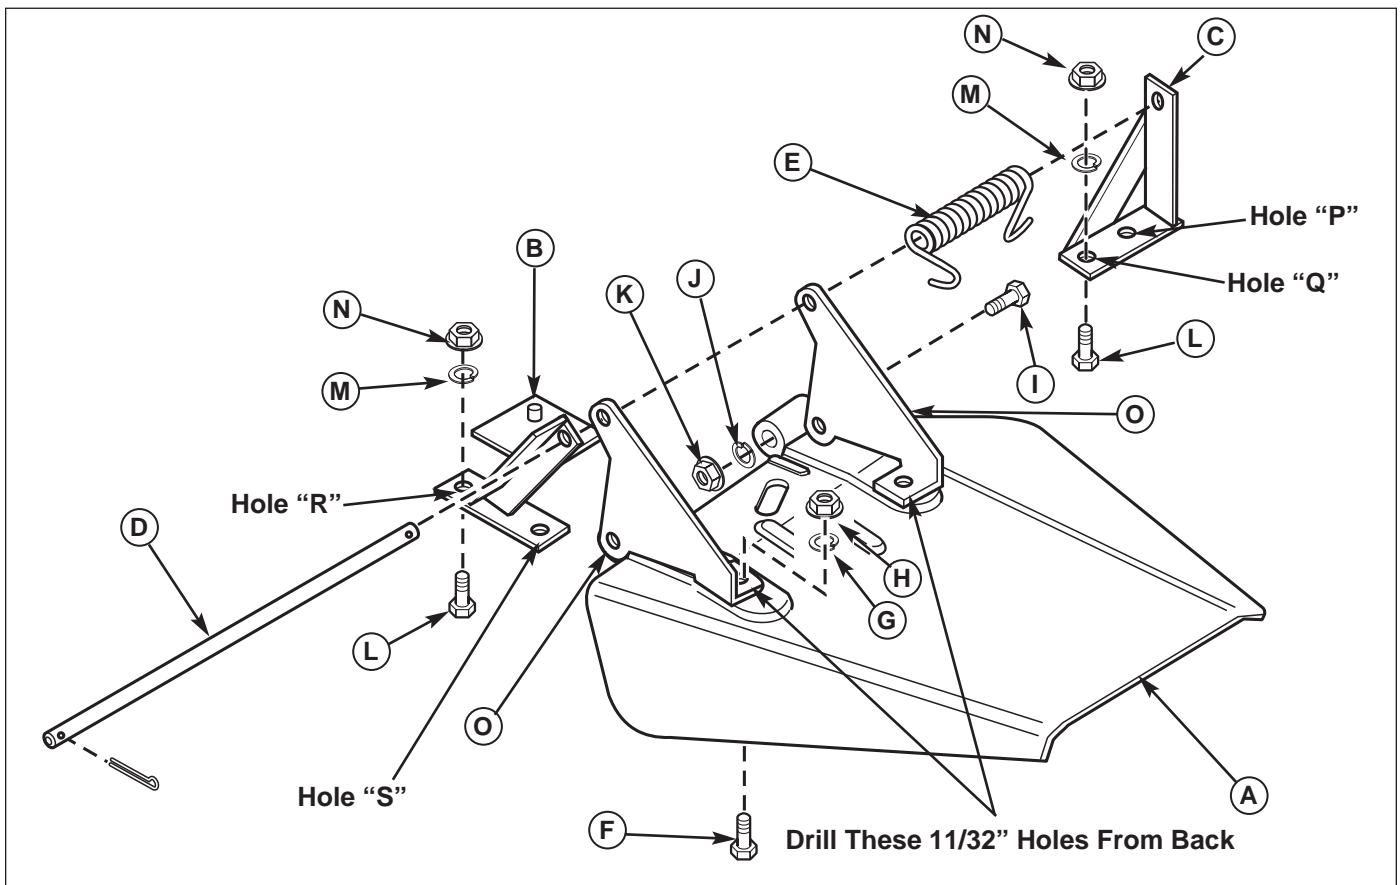

Figure 4. Deflector
1. The two holes for mounting the deflector must be drilled out. Turn the deflector over, and notice that these two holes are started. Finishing drilling the two 11/32 inch holes (See Figure 4).
2. See Figure 4. Connect the deflector (A) to the deflector brackets (O) with two 5/16-18 x 7/8 screws (F), 5/16 lockwashers (G), and 5/16 nuts (H). Install screws from the bottom.
3. Install two 7/16-14 x 2-1/4 capscrews (I), 7/16 lockwashers (J), and 7/16 nuts (K) as shown. Capscrews must be installed with lockwashers and nuts on the inside as shown in Figure 4.
4. Mark and drill two 13/32 holes (S & R) in mower deck. Use Template on page 9. Attach the front pivot bracket (B) using 3/8-16 x 1 carriage bolts, lockwashers, and nuts inserted through hole "S" see Figure 4).
5. Attach the back pivot bracket (C) to the existing hole in the mower deck formerly used to mount the deflector rod. Attach using 3/8-16 x 7/8 carriage bolts, lockwashers, and nuts inserted through hole "P" (See Figure 4).
6. Use the hinge rod (D) to align the front and back pivot brackets (B and C) as shown.
8. In the new drilled hole, install 7/16-16 x 1 capscrews (L), lockwasher (M), and nut (N). Install capscrew from the bottom.
9. Install the deflector (A) assembly. Insert the rod (D) through the brackets (B, O, and C) and spring (E). Secure with a cotter pin at each end.
10. Hook the spring on the rear deflector bracket (O), pre-load one turn, and hook second end on back pivot bracket (C).